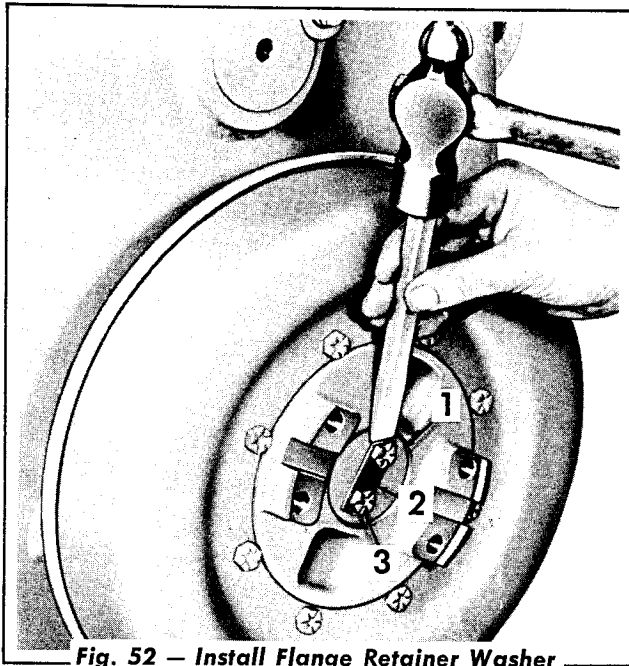

Fig. 52 — Install Flange Retainer Washer
16. Install the flange retainer washer (Fig. 52) with the machined surface toward the flange. Install the lock strip and the self-